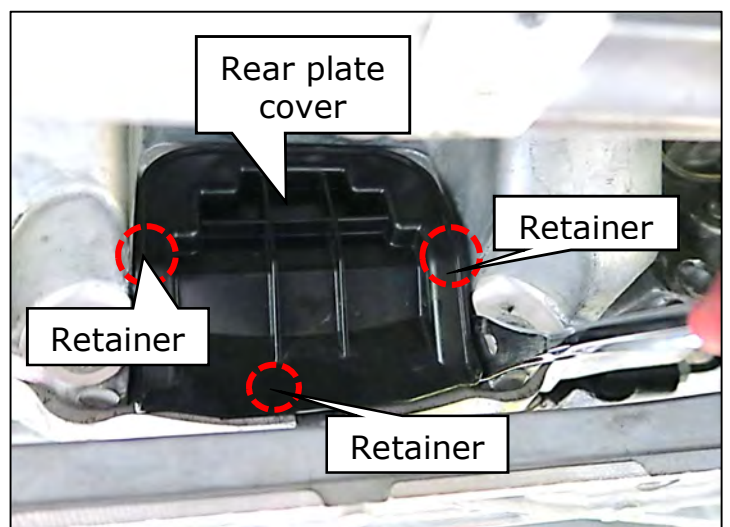

Figure 44
46. Remove rear plate cover. (Figure 44)